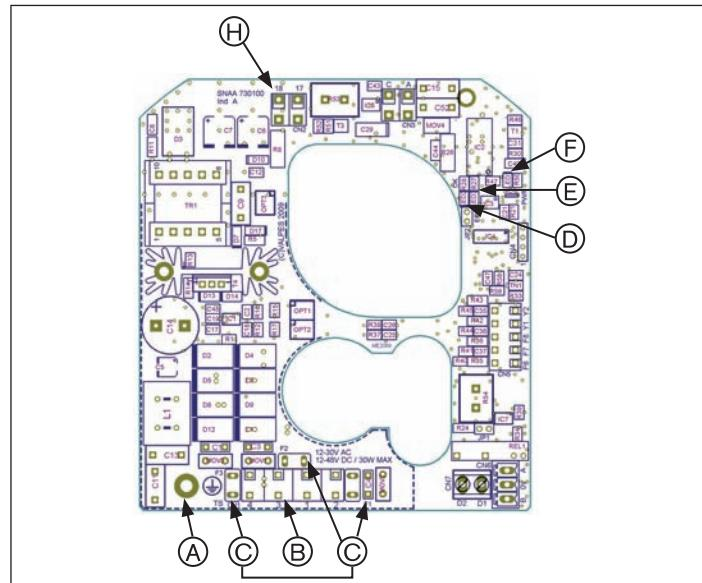
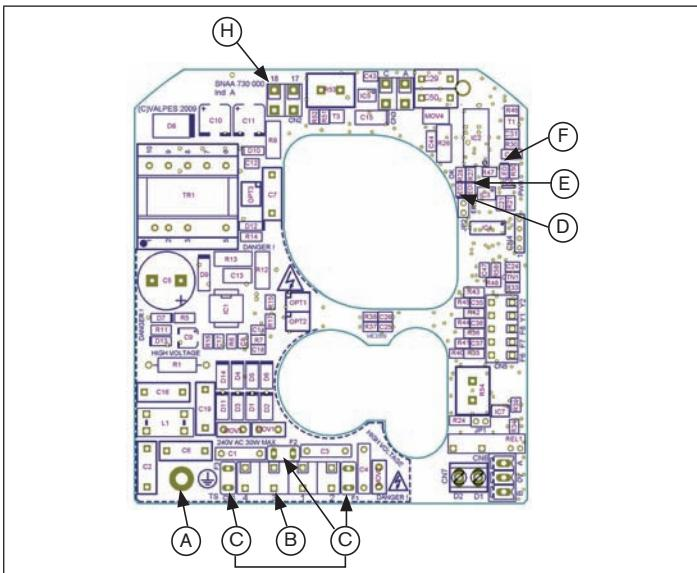

Fig. 12: Power supply circuit board 15-30 V 50/60 Hz (12-48 V DC)
Fig. 13: Power supply circuit board for actuators with 300 Nm
- Loosen earthing screw (16) and attach eyelet of the earthing cable to the earthing screw.
- To do this, loosen earthing screw and attach eyelet of the earthing cable with the earthing screw (see "Fig. 12" and "Fig. 13").
- Connect cable according to the required control type ("Fig. 14" and "Fig. 15") to the terminal strip Pos. B of the power supply circuit board ("Fig. 12" and "Fig. 13").